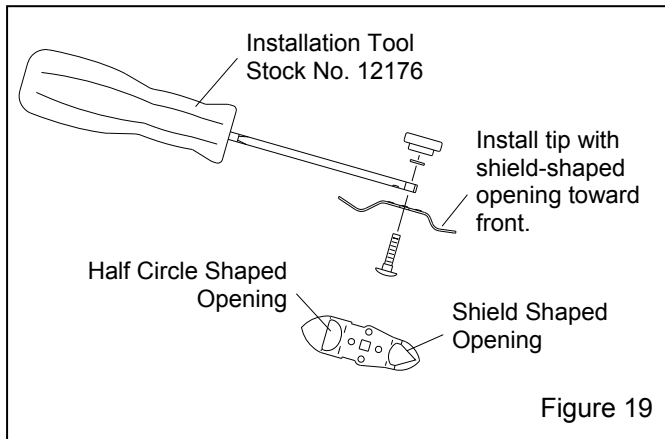

Figure 19
6.4.8 Attach the appropriate tip to the optional installation tool as shown in Figure 19.